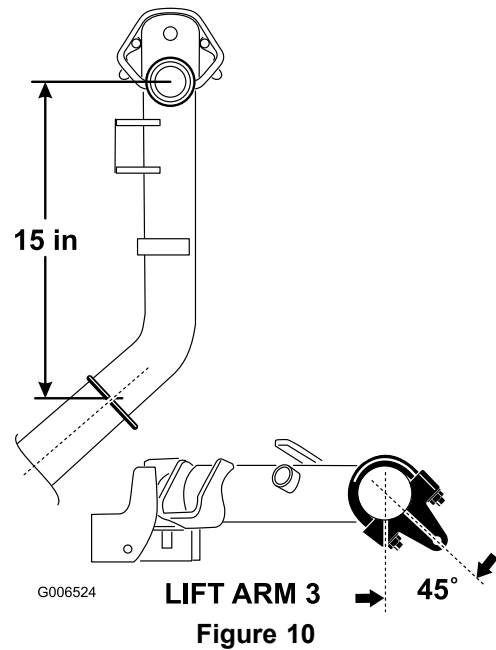

Figure 10
- On lift arms #2 and #3, position the brackets and U-bolts 381 mm (15 inches) behind the center line of the pivot knuckle (Figure 10). Rotate the brackets 45 degrees to the outboard side of the machine.